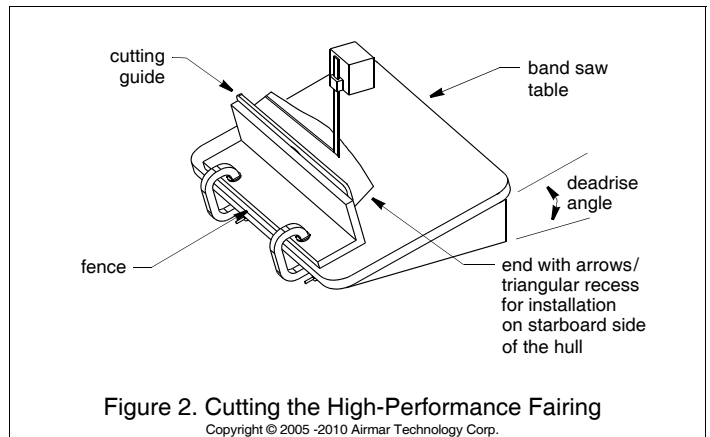

Figure 2. Cutting the High-Performance Fairing
2. Tilt the band saw table to the measured angle and secure the cutting fence (Figure 2).